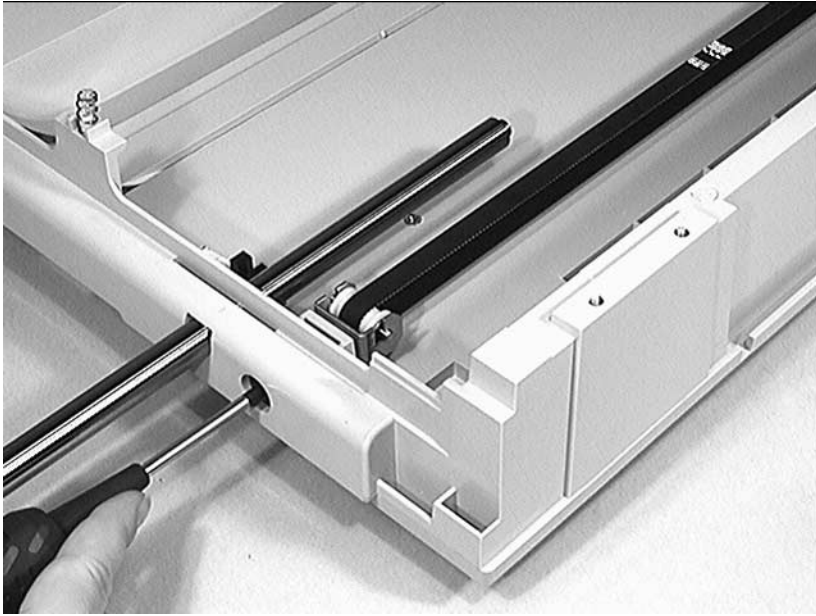

Figure 6-262 Carrier Belt and Motor (1 of 2)
- 2 To adjust the tension of the Carrier Belt, tighten or loosen the screw shown in Figure 6-262.